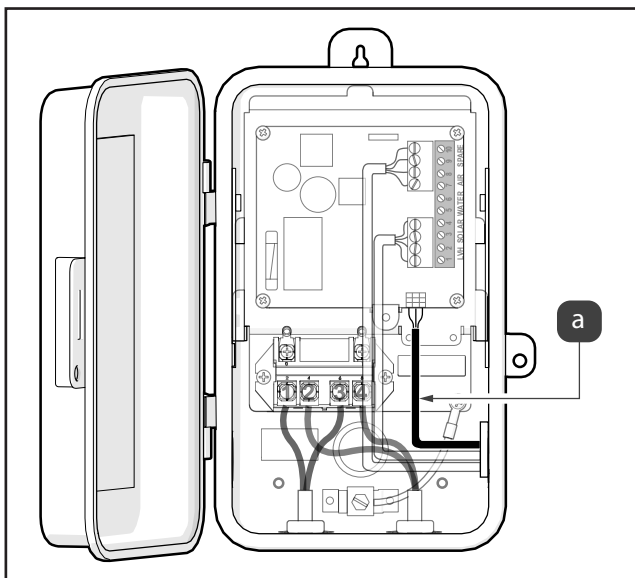

Figure 6. Pool Only Version, Connect Line Inputs & JVA Cable
3. Connect JVA cable, see Figure 6 (a).